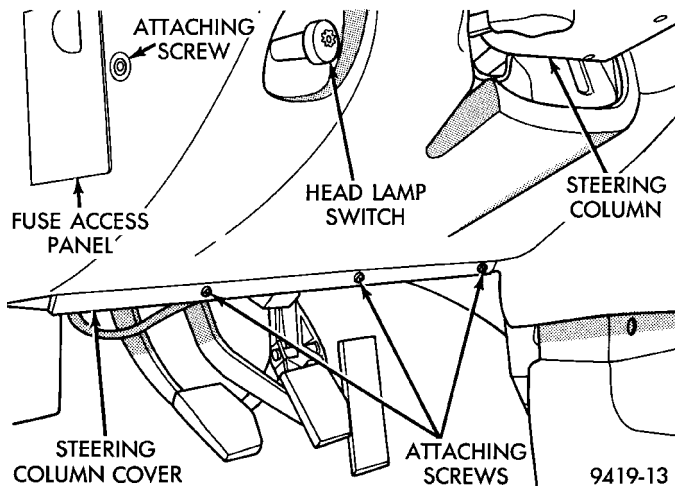

Fig. 6 Steering Column Cover
(1) Disconnect the negative (ground) cable from the battery and isolate cable.
(2) Before beginning removal of steering column assembly from vehicle, be sure front wheels of vehicle are in the **straight ahead** position.
(3) Remove the 4 screws attaching steering column cover, to lower instrument panel. Then remove the trim panel from the instrument panel (Fig. 6).